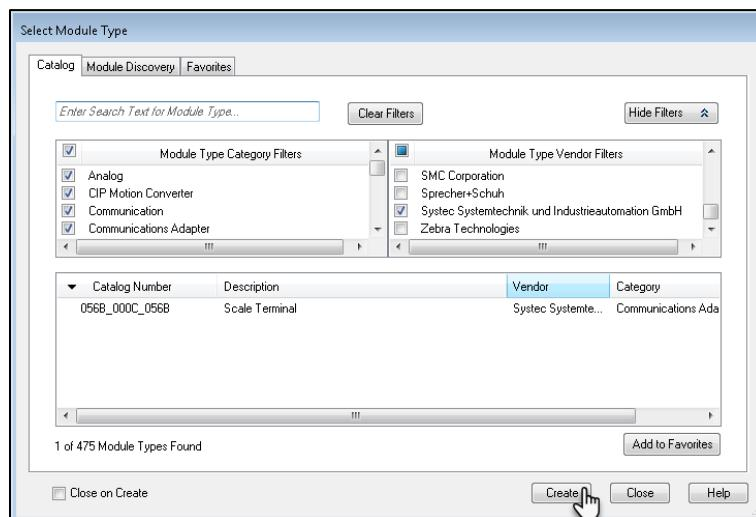

Figure 23: Ethernet Module Choice Window
- Add a new **Ethernet Module** and put a checkmark in the field tagged **Systec ... GmbH**, hit the **Create** button to complete this step (see **Figure 23**).